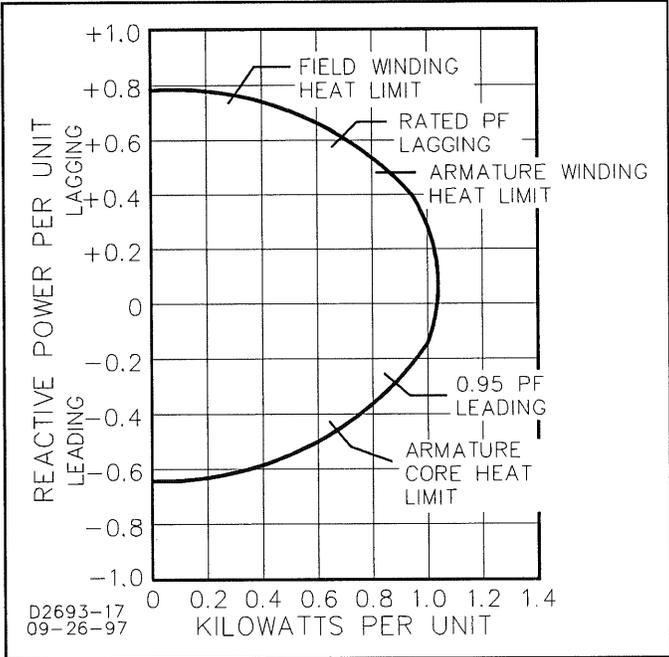

Figure 1-1. Typical Generator Reactive Capability.
b. The EL 200 Excitation Limiter has circular characteristic that is compatible with typical generator reactive capabilities as shown by Figure 1-1.
- a. Transformer T1 receives a 0 to 5 A signal from an external current transformer (CT) which senses the generator output current. The output of T1 is passed to the VAR and Watt detectors.
b. The VAR and Watt Detectors convert the ac inputs to dc outputs which represent (by polarity and amplitude) the VAR and Watt components of the generator output current. The output of the VAR detector passes through a tapped resistor network (Curve Selector) to the VAR Comparator. The VAR Comparator makes a comparison of the Curve Selector output with a dc reference voltage. If the leading VAR component (generator current) is higher than the reference voltage, the Comparator outputs a signal through the voltage regulator/exciter that will cause an excitation limiting and thus, prevent operation outside the limit. This VAR limiting action would normally produce a limiting threshold (Refer to Figure 1-1) that would approach being a horizontal line at the -0.4 to -0.6 per unit level. To produce the desired output curve, a Watt signal is passed through the Forward Watt Amplifier (non-linear) to the VAR Comparator. To assure proper operation, a calibration circuit is provided to set up the proper levels of operation for a wide range of input current levels.